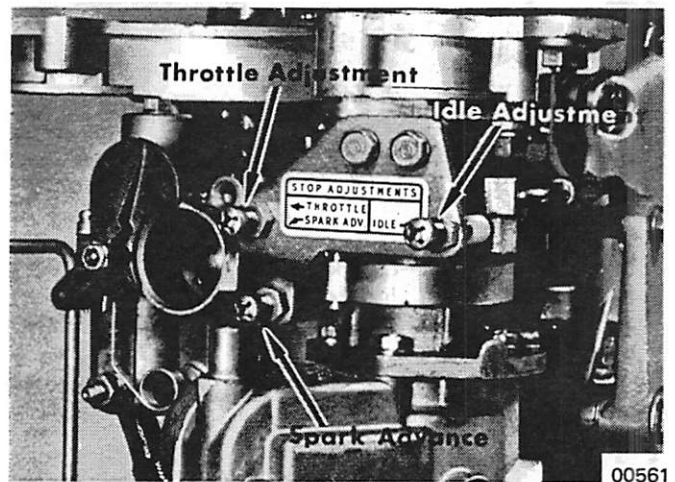

Figure 2. Magneto Stop Bracket Adjustment
11. Hold magneto in this position and adjust spark advance screw to just touch pilot assembly, then tighten locknut. (Figure 2)